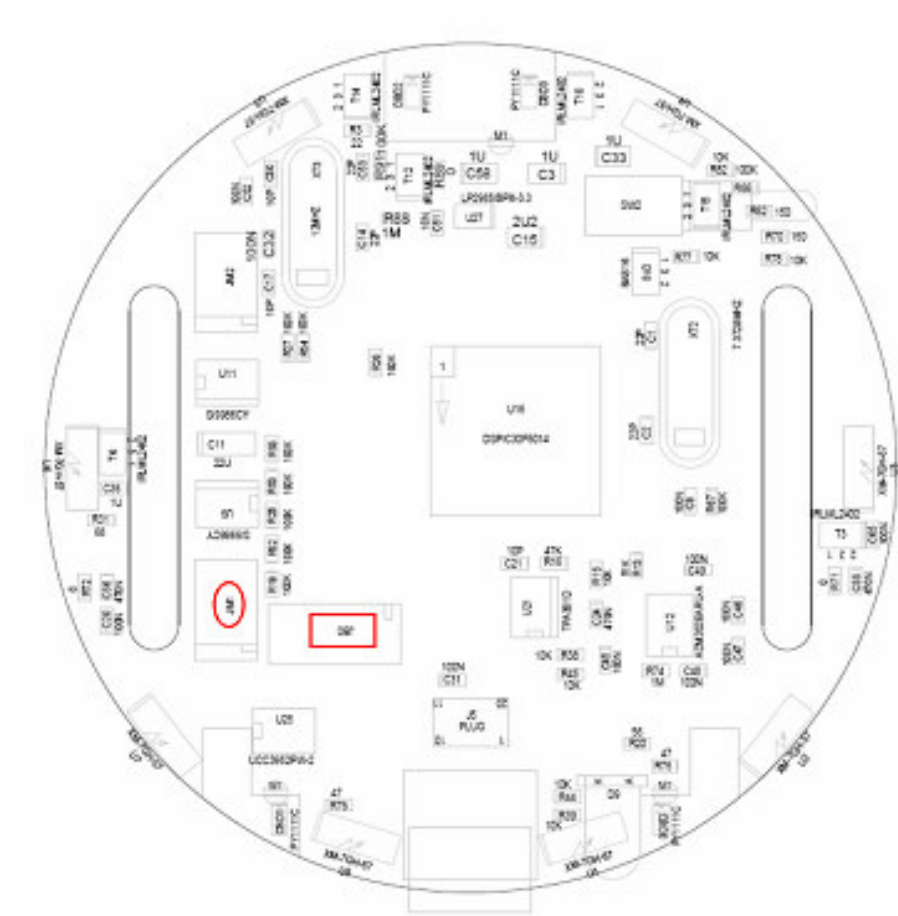
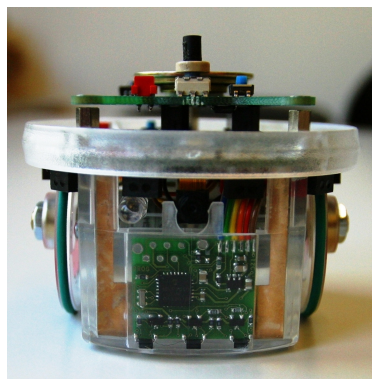

Figure 2.1 Positions of JB0 and JM1 (circled in red) on the PCB
Figure 2.2 Front of the *e-puck* with a Ground Sensors module installed
(large red rectangle in Figure 2.1 in Page 8)
- ① Connect the connector for Ground Sensors module at JB0 (small red oval in Figure 2.1 in Page 8).
- ② Re-connect the motor connector at JM1.
- ③ Insert the Ground Sensors module in the vertical slot at the front of the *e-puck*'s plastic base. When installing the module, make sure the face of the 3 active IR sensor elements points downward and the module's CPU is mounted to face outward as shown in Figure 2.2.